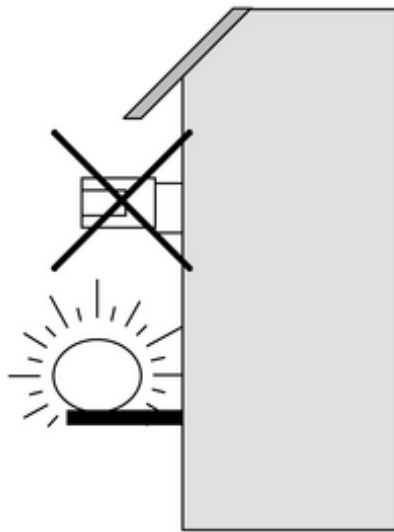

Figure 7
- Do not install the motion detector directly above a luminaire. A cooling lamp could be detected as a heat change causing additional switch-on (Figure 7).